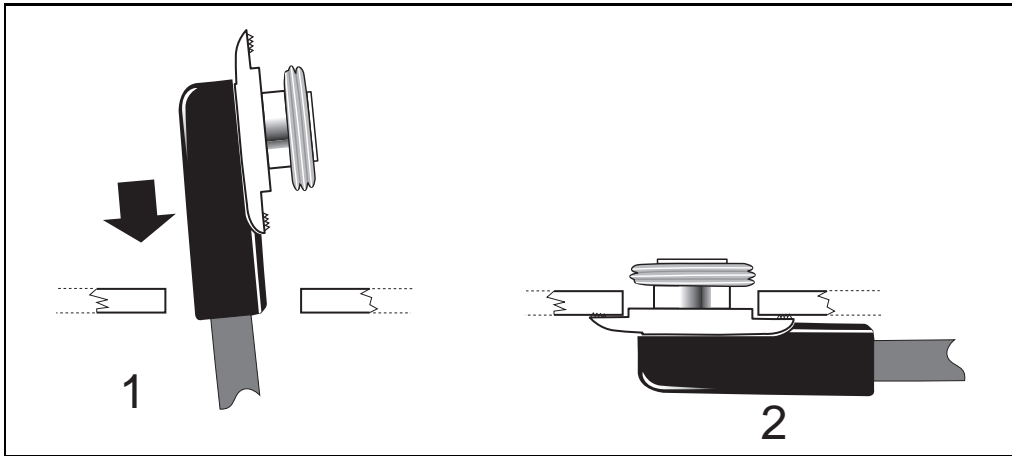

Figure 2.17 Mounting the antenna cable assembly
4. Feed the coaxial cable and the serrated part of the mounting assembly through the hole (Step 1, Figure 2.17).
5. Pull up on the locking nut and slip the mount step into proper alignment in the hole (Step 2, Figure 2.17).